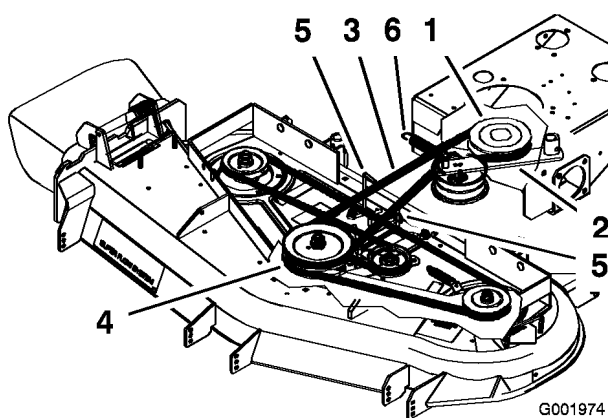

Figure 53
6. Remove the idler spring from idler arm. Remove the drive belt from the PTO clutch pulley, idler pulleys and the left spindle pulley (Figure 53).
7. Install the new drive belt onto the PTO engagement pulley and the top groove of the center spindle pulley (Figure 53).
8. Install the belt onto idler pulleys and then install idler spring (Figure 53).
10. Adjust the belt guide an 1/8 inch (3 mm) from the belt (Figure 53).